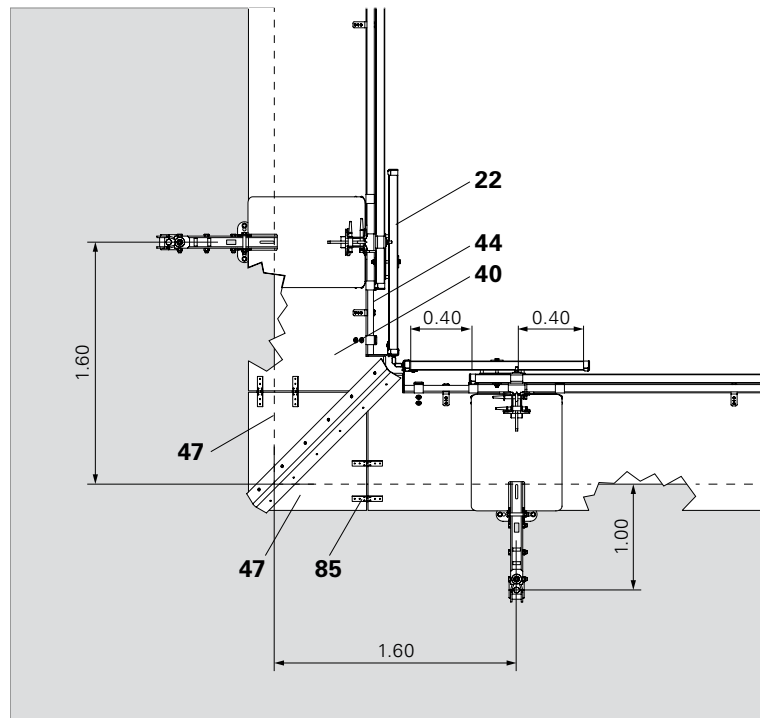

Fig. B3.06
For the climbing procedure, first fold up the Cover Plate for the internal corner (47), then fold up the foldable cover (40). (Fig. B3.06)